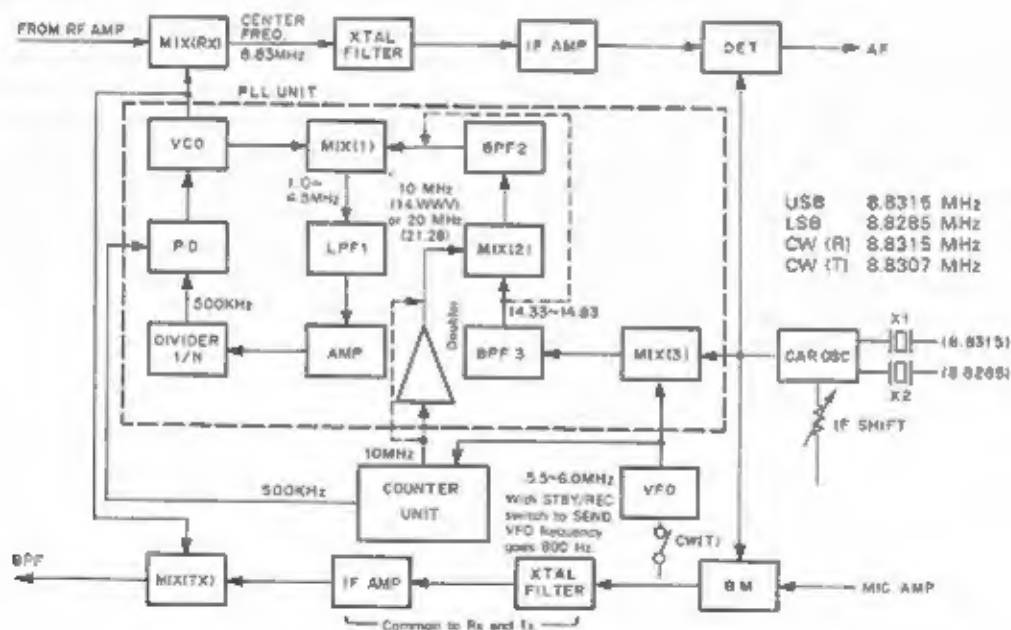

Fig. 1 TS-120 Frequency configuration
The TS-120S employs single conversion with a unique PLL circuit, as shown in Fig. 1.
Referring to Fig. 1, MIX (3) combines CAR and VFO signals and is operated straight through to mixer (1) on 3.5 and 7 MHz. MIX (2) operates at 14 MHz and above with the output of MIX (3) to provide mixer (1) input, as shown in
The CAR oscillator contains one oscillator and two crystals for LSB, USB, and CW operation. The oscillator frequency in each mode is listed in Fig. 1.